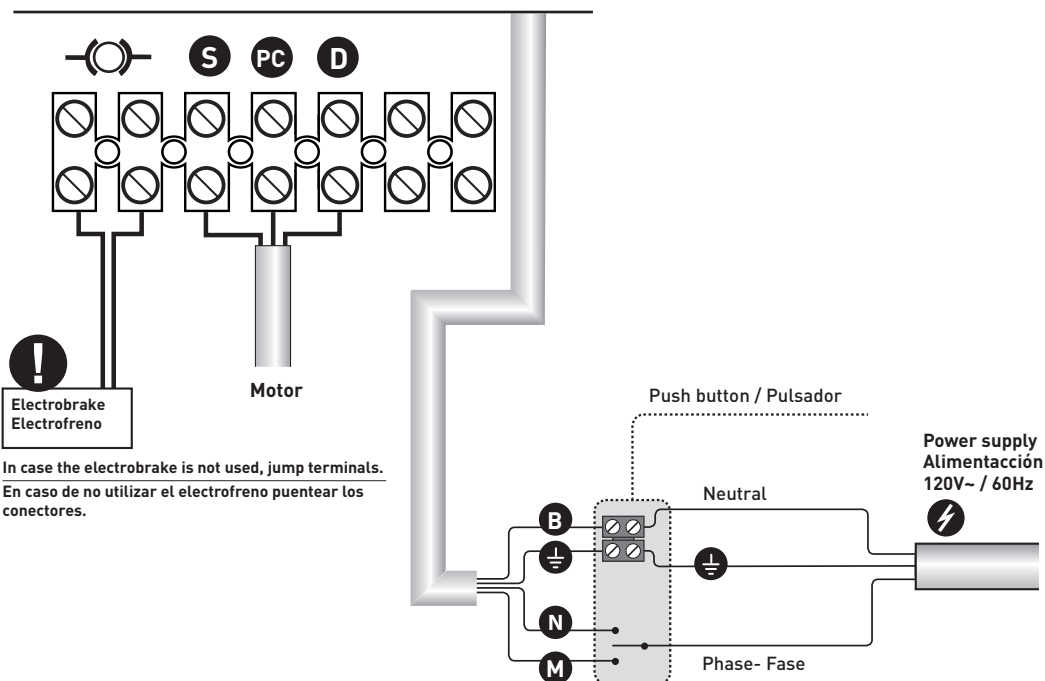

**Fig. 4 - SQ12012SEU - SQ15011SEU**
- Wiring diagram for SQ12012SEU/SQ15011SEU (Fig. 4) and for SQ23011SEU (Fig. 4a)